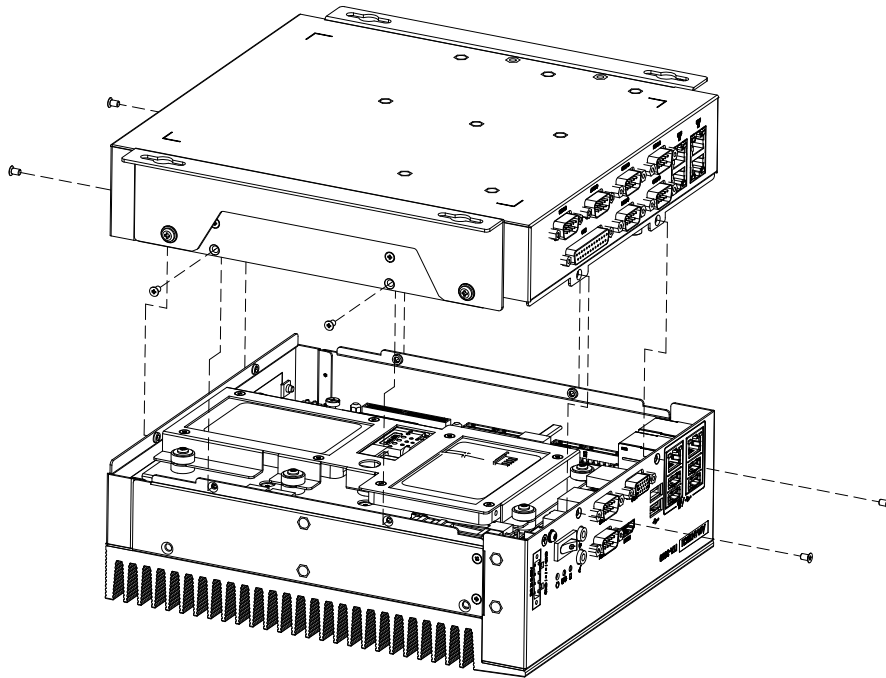

Figure 3.6 Installing an expansion Module
2. Install the I/O expansion module on the base chassis according to Figure 3.6.